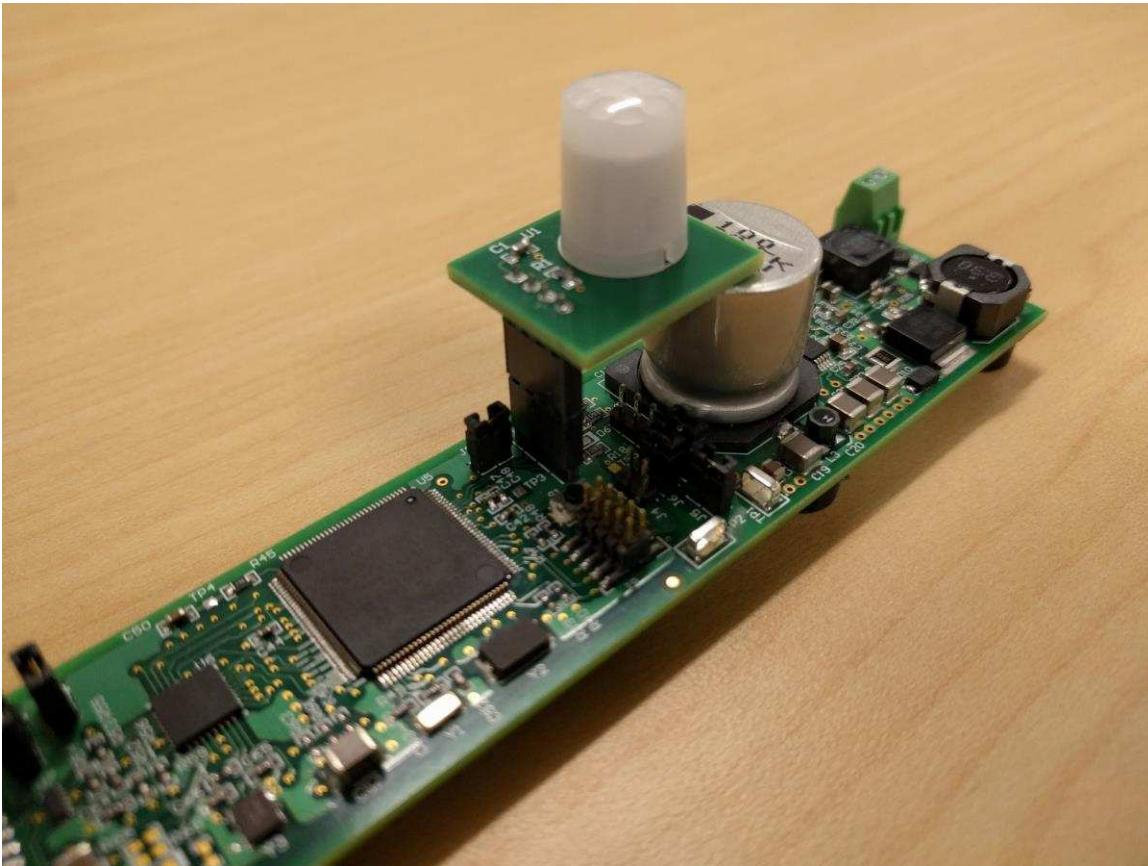

図 20. TIDA-01463 PCB With IR Sensor Attached
1. First, connect the IR sensor board to header J10 on the TIDA-01463 PCB. The board will function without the sensor. For the correct connection, the board must hang over the large capacitor, so an additional 4-pin header is included to ensure height clearance. 図 20 shows the orientation of the IR sensor board..